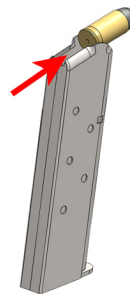

Figure 11
- Unload the magazine by holding it with the bullet end of the cartridge pointed in safe direction, away from yourself and others. Press each cartridge forward and out of the magazine - Figure 11.